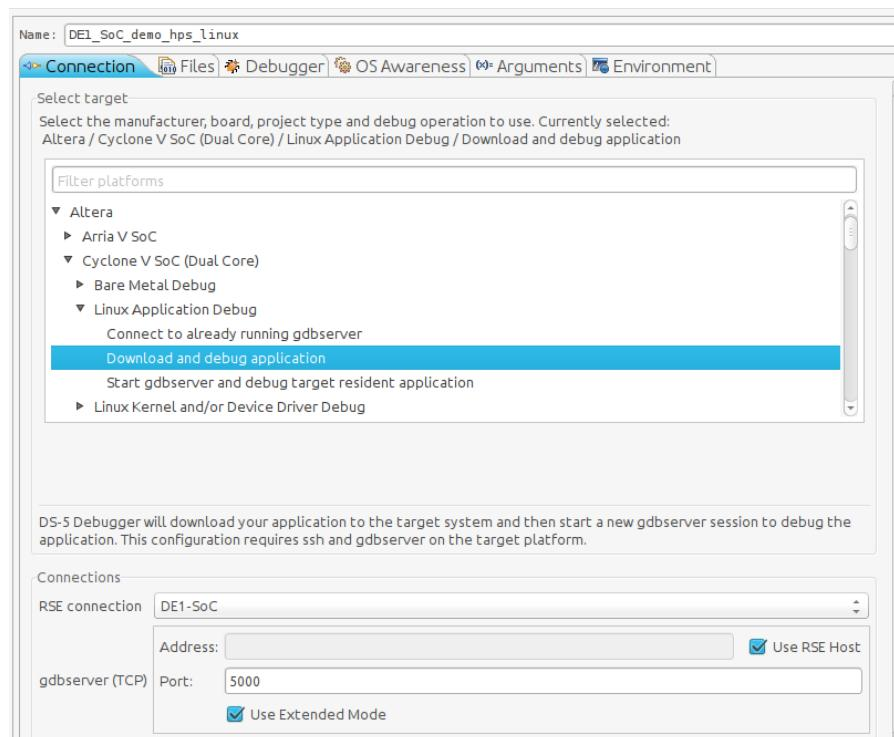

Figure 13-19. Debug Configuration “Connection” Tab
- b. Set the “RSE connection” to “DE1-SoC”. This is the remote system connection we created earlier. You should have something similar to Figure 13-19.